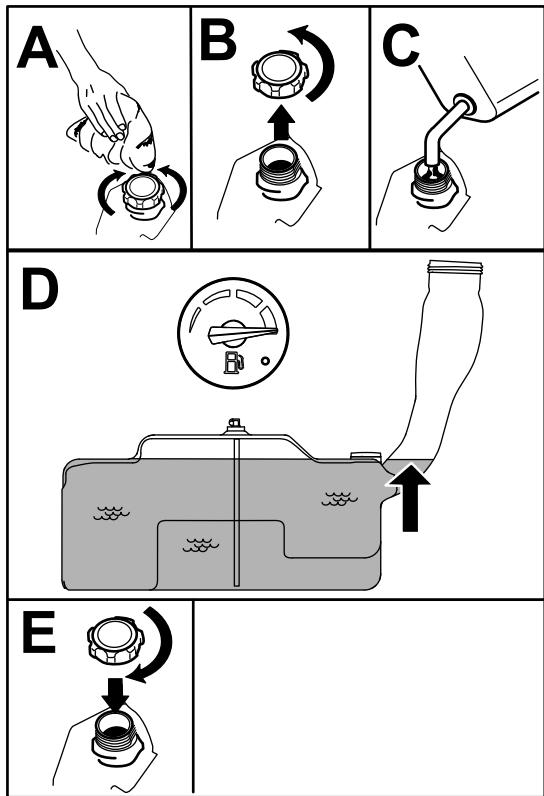

Figure 7
5. Fill the fuel tank until the fuel gauge reads at the full mark (Figure 7). Do not fill the fuel tank completely full.